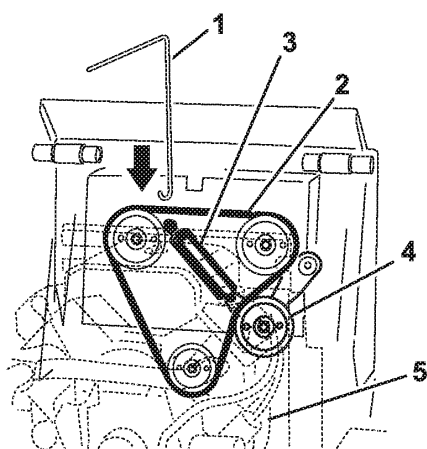

Figure 43
- Connect the hook on the spring removal tool to the hook on the idler pulley spring, and disconnect the spring from the stud as illustrated in Figure 43.